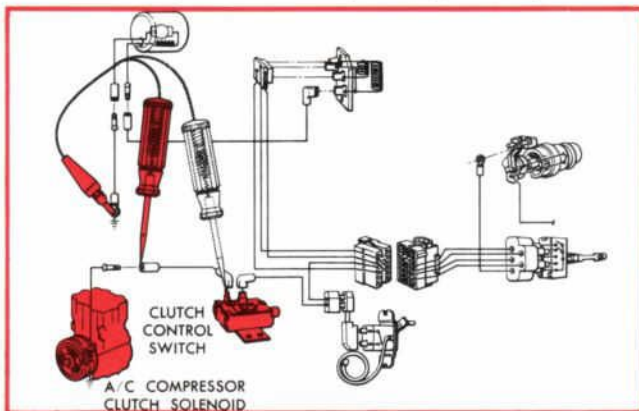

Figure 17—Testing Clutch Lead Continuity
1. With one end of the test light connected to a good ground, touch the probe to the lead between the clutch control switch and the clutch solenoid (Fig. 17). If the light doesn't burn, move the probe to the switch connection. If it burns now, the lead wire requires repair or replacement.